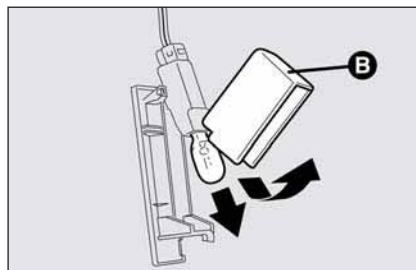

fig. 42
- ☐ open the protection **B**-fig. 42 and replace the snap-fitted bulb;
- ☐ re-close the protective cover **B**-fig. 42 on the transparent;